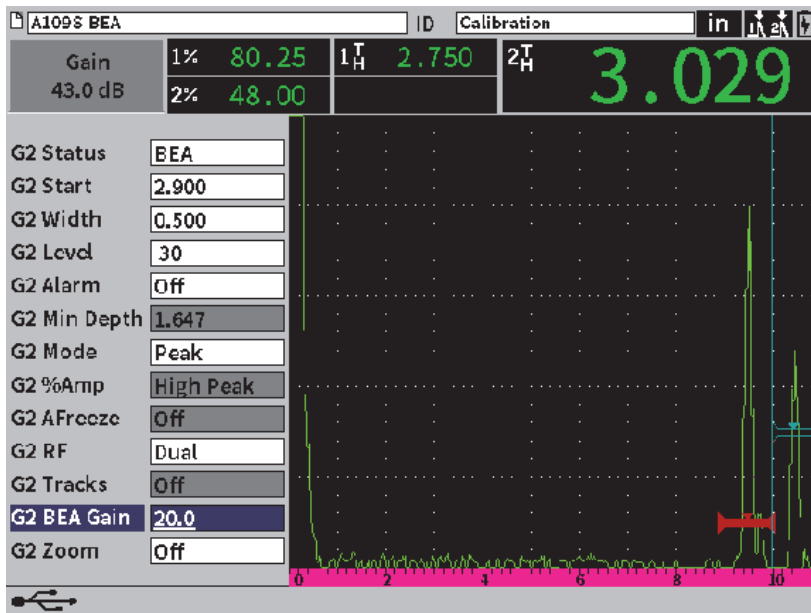

Figure 11-29 Adjusting back wall gain
1. In the gate 2 dialog box, press the Tab key to select **G2 BEA Gain** (see Figure 11-29 on page 209).